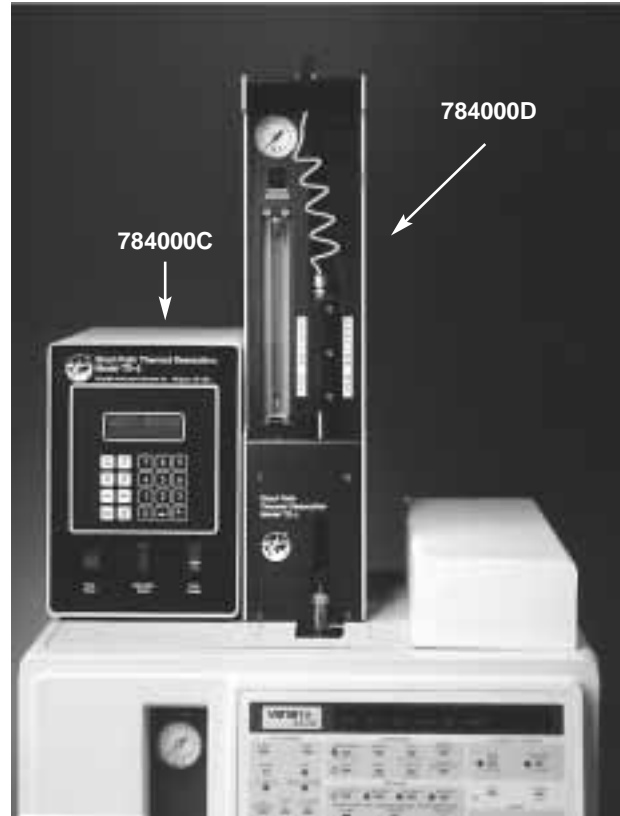
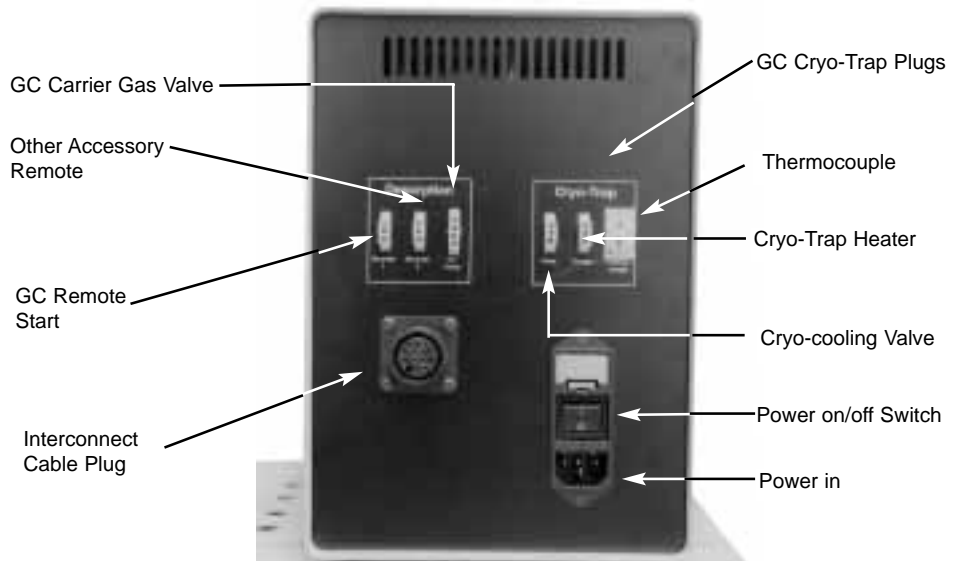

Fig 3.18 The S.P.T.D. unit installed on the Varian 3400. The S.P.T.D. controller fits well next to the unit.
Fig 3.19 Rear view of the S.P.T.D. controller (784000C).
19. The S.P.T.D. controller (784000C) can be positioned next to the unit as shown in **Figure 3.18** or can be positioned on the bench next to the GC. **Figure 3.19** shows the back of the controller.